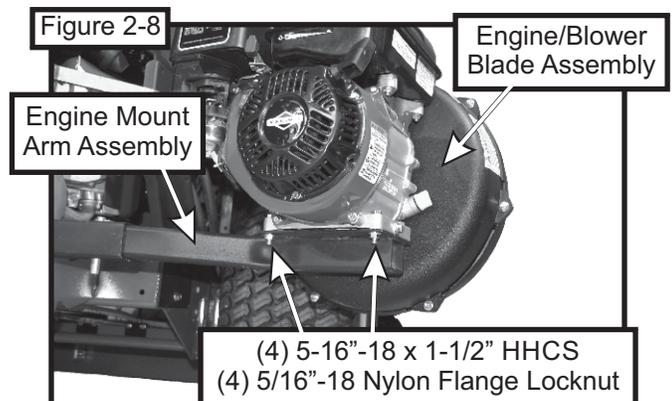

Figure 2-8
Position the engine/blower/blade assembly on top of the engine mount arm assembly and secure with (4) 5-16"-18 x 1-1/2" HHCS P#(K1157) and (4) 3/8"-16 nylon flange locknuts P#(K2516). Refer to Figure 2-8.